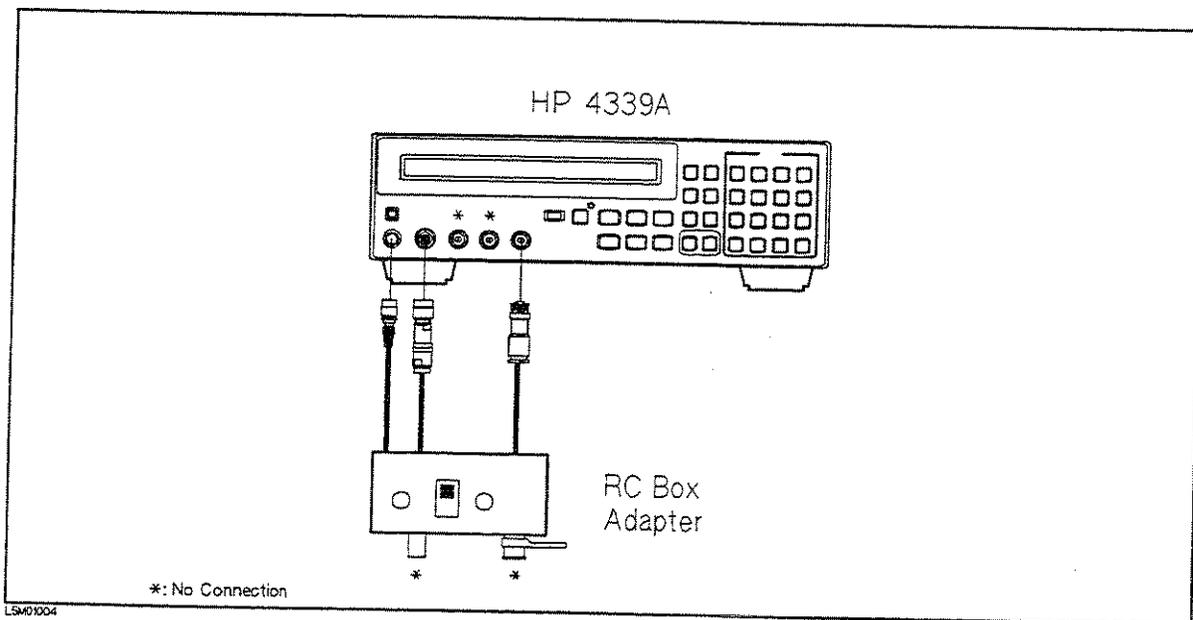

Figure 9-13. Contact Check Functional Test Setup
2. Set up the equipment as shown in Figure 9-13.